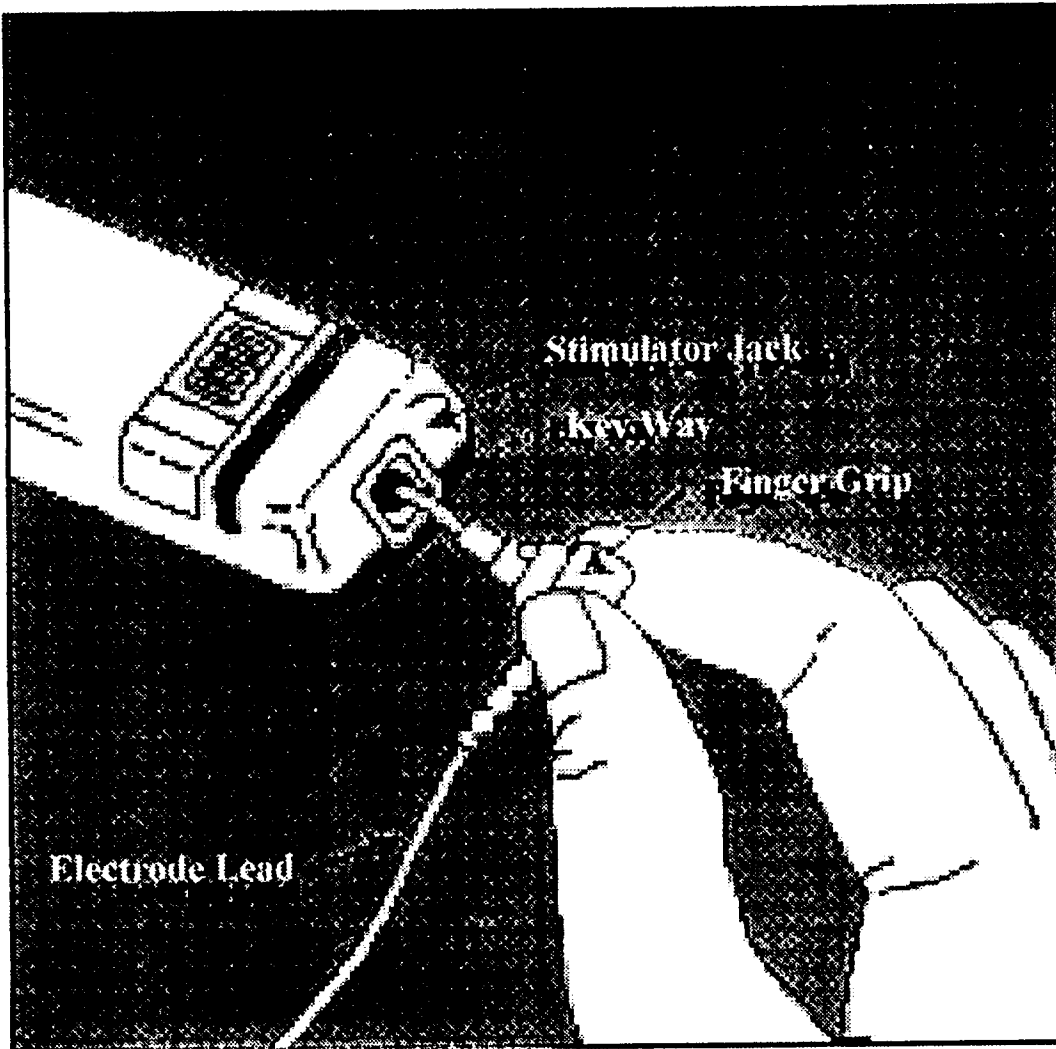

Figure 1
- Connect the electrodes to the stimulator using the lead wires provided. Choose the shortest lead wires possible to connect to the SpinalPak® Fusion Stimulator where you wish to wear the stimulator on your body. Put the electrode lead plug carefully into the jack at the top of the stimulator, and turn it clockwise, see Figure 1.